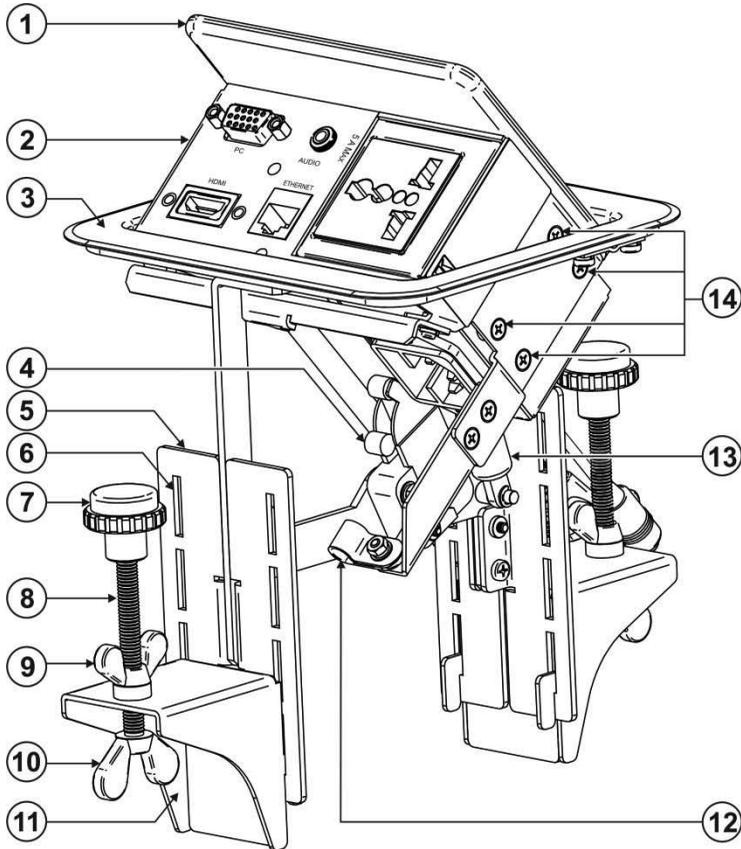

Figure 2: Defining the Parts of the TSPB-2V1AD Square table box with HDMI, VGA, 3.5mm audio, and RJ45 inputs
6. Insert the power cord into the power connector lock and tighten the screw (see Figure 2, item 12) to secure the power cable.